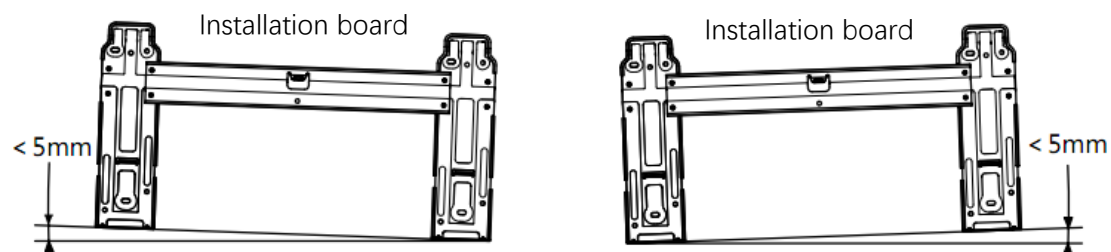

Fig 4
- Dismantle the metal installation board of the indoor unit. Adjust the installation board to horizontal position. The height difference between the left and right sides of the installation board should be less than 0.2inch(5mm). (Fig 4)